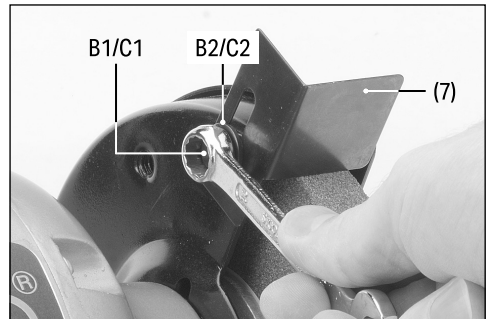

Fig. 3
6.4 Fitting the Spark Deflectors (Fig.3)